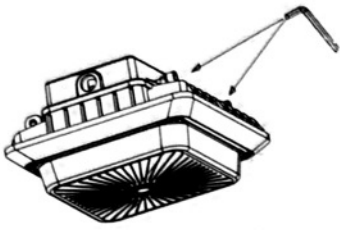

Figure 3-1
1. Disassemble the driver box cover by loosening the two screws on the driver box; Figure 3-1